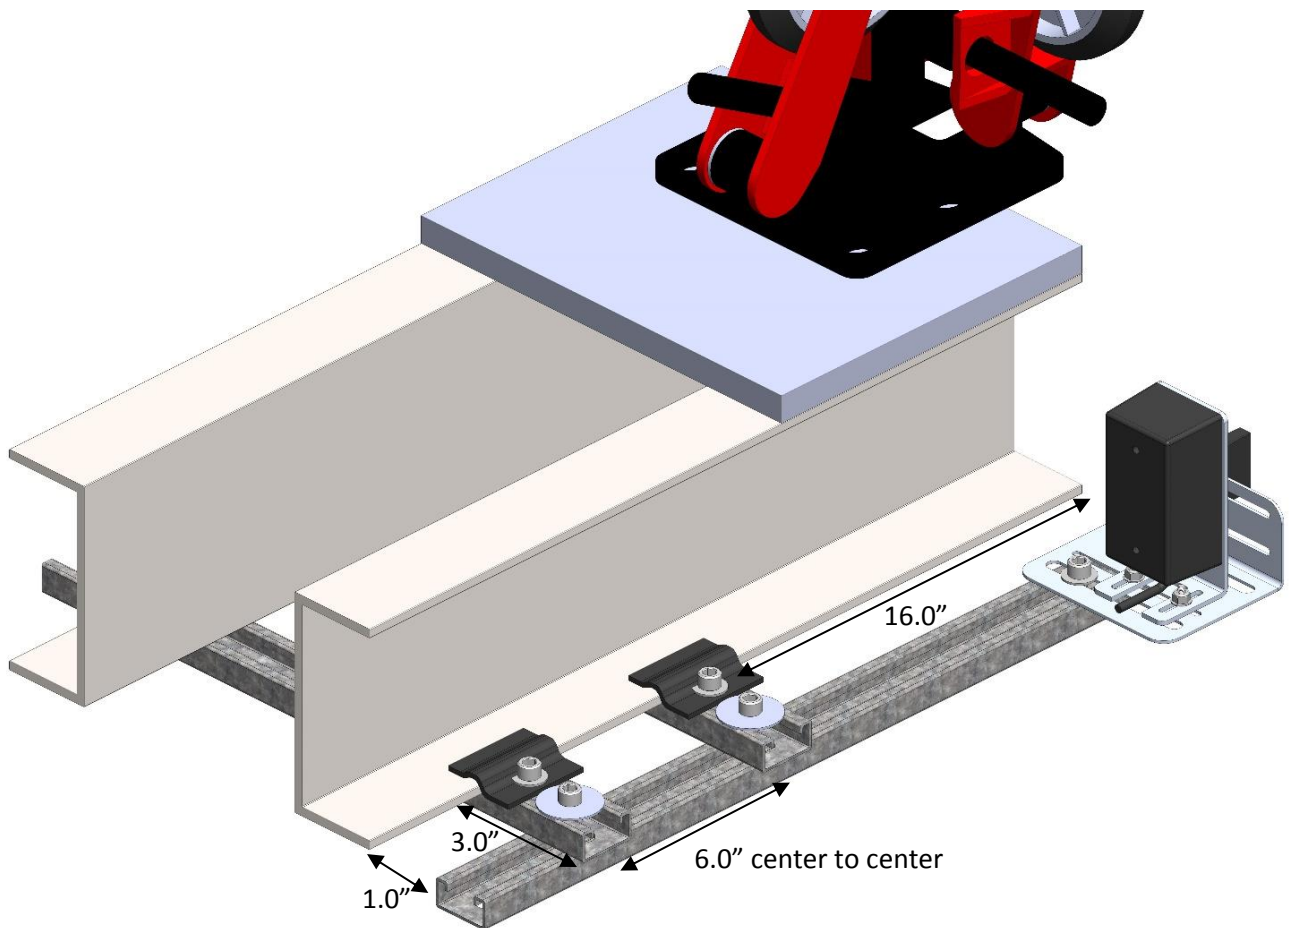

Figure 6: Unistrut installation
- Bolt the two, 18" lengths of Unistrut to the C-channels as shown in figure 6.
- Bolt the 24" length of Unistrut to the two 18" lengths as shown in figure 6. Note: the 24" length may be bolted to the top of the two 18" lengths if desired.